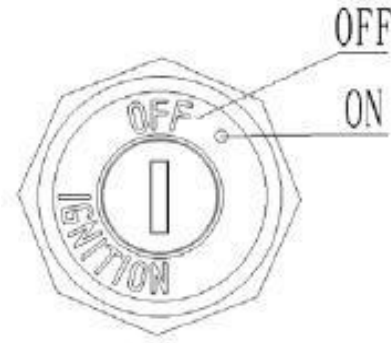

Fig 4 Key Switch
1. Insert the key into Key switch (figure 4), Turn the key clockwise to “ON” position. Gently pull up the Emergency stop switch (Figure1-7).and the control circuit opens.
7. When the forklift stops, lower the fork to the lowest position, press the emergency stop switch (Figure 1.7), and pull out the key (Figure 4)
If there is any error or the car is not operate, Stop using and press the emergency stop switch(Figure 1.7).Parking the car in safe area if possible .Turn the key counterclockwise and remove the key(figure 4).Notify the manager or contact your after-sales service staff immediately .Use a special towing equipment /lifting equipment to pull the truck out of the operating area if necessary .
Park the car safely, Move the Mast forward to the appropriate distance, Turn off the car by key(Figure 4) and press the emergency stop switch(Figure 1.7) to open the battery cover ,Remove the battery connector .Then lift the battery from the top of the frame directly .Caution: If the lifting equipment is not safe. The battery may tip over. Installation is the opposite procedure of remove, please connect the positive terminal first. Otherwise, the car is easy to damage